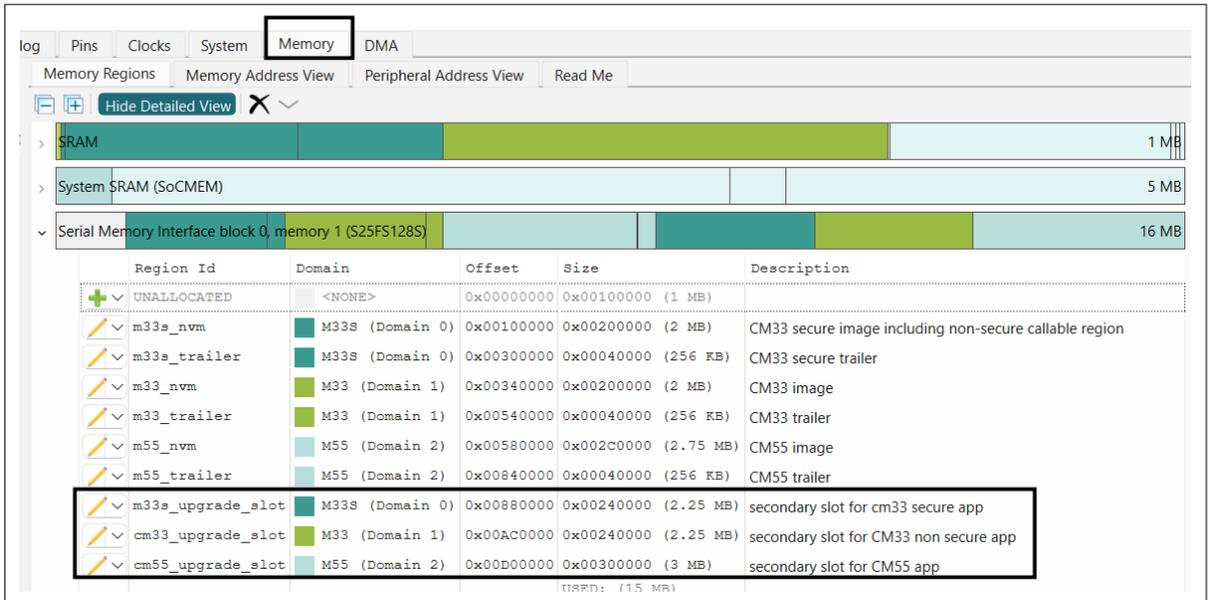

Figure 14 Add secondary slot regions in external flash
- Add new secondary slot regions in the external flash memory for all three projects as shown in Figure 14